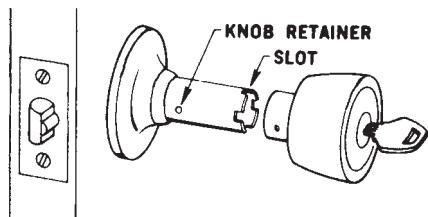

Figure 13.19 Pull knob off spindle.
3. Pull the knob off the spindle (Fig. 13.19). Rotate the knob so the biting on the key will be *up*.